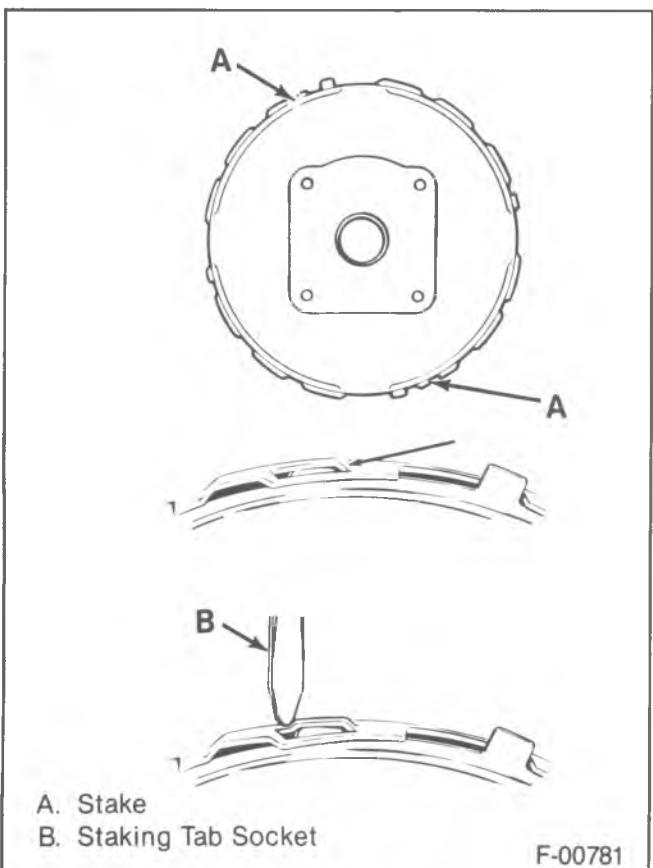
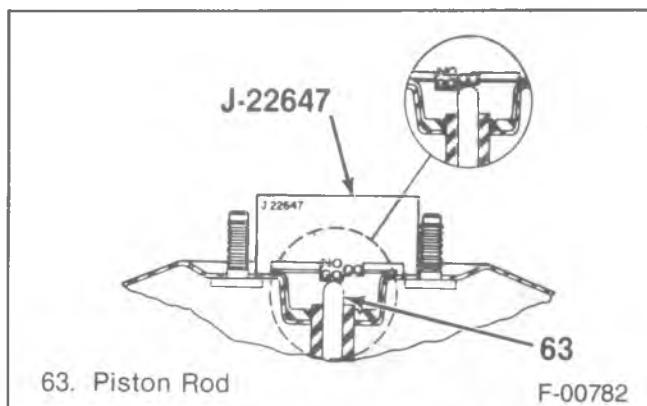

Figure 23—Staking the Tabs
Figure 24—Gaging the Piston Rod
- Stake two tabs with a screwdriver (figure 23).
- 17. Silencer (52).
- 18. Boot (51) and retainer (50).
- 19. Front housing seal (77).
- 20. Grommet (79) and vacuum check valve (78).
- Gage piston rod (figure 24).
- Stake two taps with a screwdriver (figure 23).
20. Silencer (52) and boot (51).
21. Front housing seal (77).
22. Grommet (79) and vacuum check valve (78).
23. Gage piston rod (figure 24).